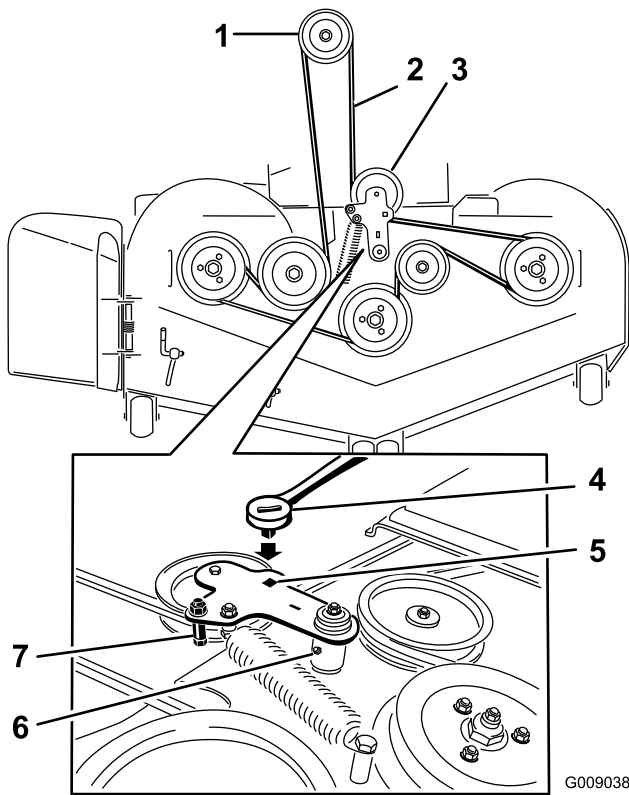

Figure 76
- Use a ratchet in the square hole in the idler arm to remove tension on the idler spring (Figure 76).
- Remove the belt guide on the spring loaded idler arm shown in Figure 76.
- Install the new belt around the mower pulleys and the clutch pulley under the engine (Figure 76).
10. Install the belt guide on the idler arm shown in Figure 76.
11. Using the ratchet in the square hole, install the idler spring (Figure 76).